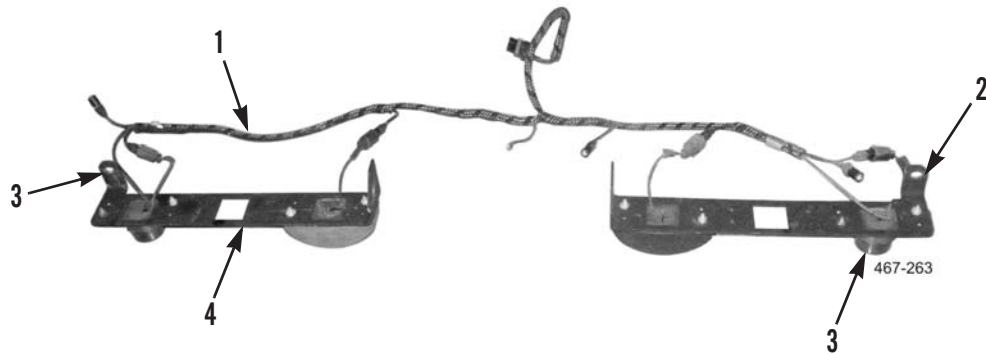

Figure 56. Light Brackets and Original Harness.
1. Place original wiring harness (Figure 56, Item 1), left light bracket (Figure 56, Item 4) and right light bracket (Figure 56, Item 3) on flat work surface.
2. Place tab (Figure 56, Item 2) at outer end of original wiring harness (Figure 56, Item 1) as shown.